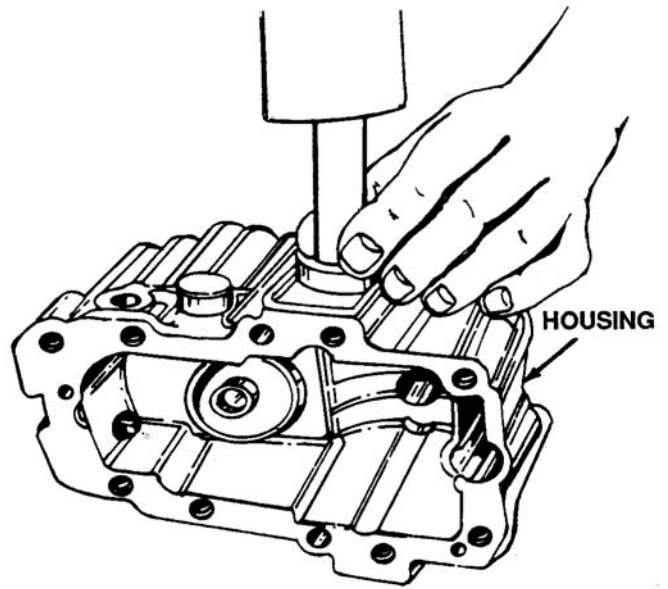

Figure 6-38. Pressing Journal Bearing Into Housing
- a. Press journal bearing into the housing. See Figure 6-38.